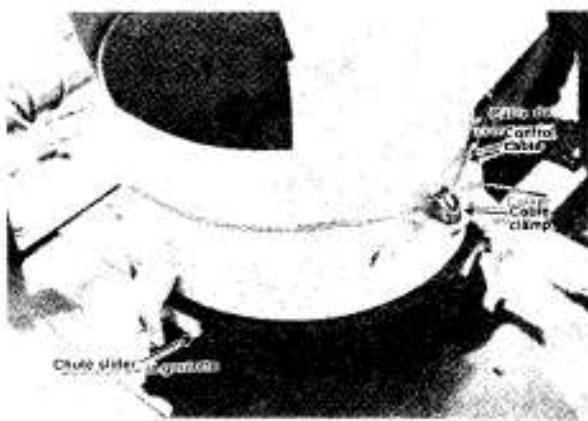

FIG. 14
- (b) Remove the three retainers from the base of casting chute. Smear some light grease around the outlet collar on the blower in the area above the angle ring. Place the chute over outlet, make sure it turns freely between the stops and replace the retainers under the angle ring (See fig. 14). If the chute deflector has been shipped in a stowed position, dismantle and reassemble as shown. Position chute so that it is pointing straight ahead of the blower. Bolt the cable clamp loosely through holes in the angle bracket on the side of the chute.
(c) Assemble the rotator brackets and shaft to the blower as shown (See fig. 15). The control cable is installed by passing half the cable length through center hole in shaft. Wind each half of the cable 3-1/2 turns in opposite directions around the shaft as shown (See fig. 15). Pull cable ends around each side of chute and pass through the clamp as shown (see fig. 14). Pull cable up tight and tighten clamp. Fasten crank tube to rear end of the shaft as shown.